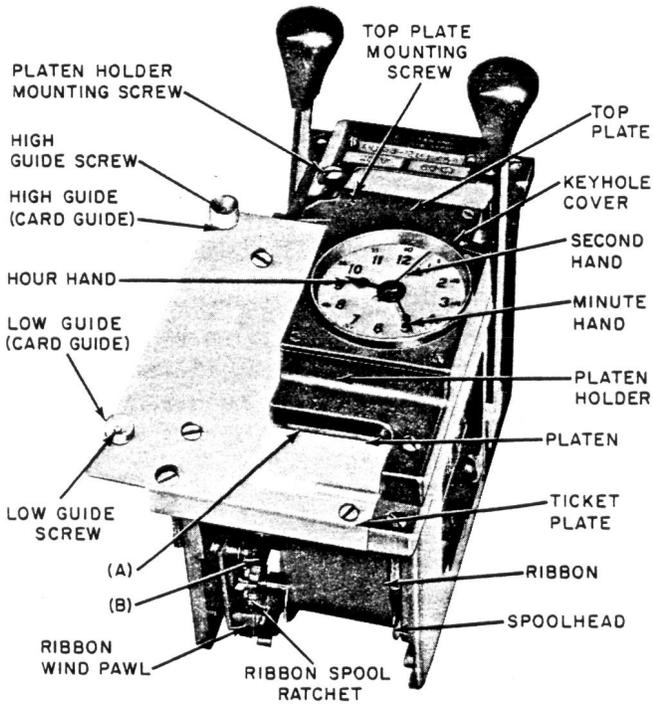

Fig. 8—Ticket Plate, Platen, and Associated Parts (Calculagraph With Offset Handle Illustrated)
2.12 Ticket or Card Entry: Fig. 8(A)—The ticket or card shall enter the ticket slot freely.
2.13 Clearance Between Card Guides and IBM Card: Fig. 8—With the IBM card inserted into the ticket slot and one long edge of the card engaging the platen holder, the clearance between the other long edge of the card and both card guides shall be 0.005 inch.
(a) Fig. 8(B)—The ribbon wind pawl shall move the ribbon spool ratchet one tooth each time the operating lever associated with the pawl is released from the operated position, except when the ribbon reverse mechanism is operated.